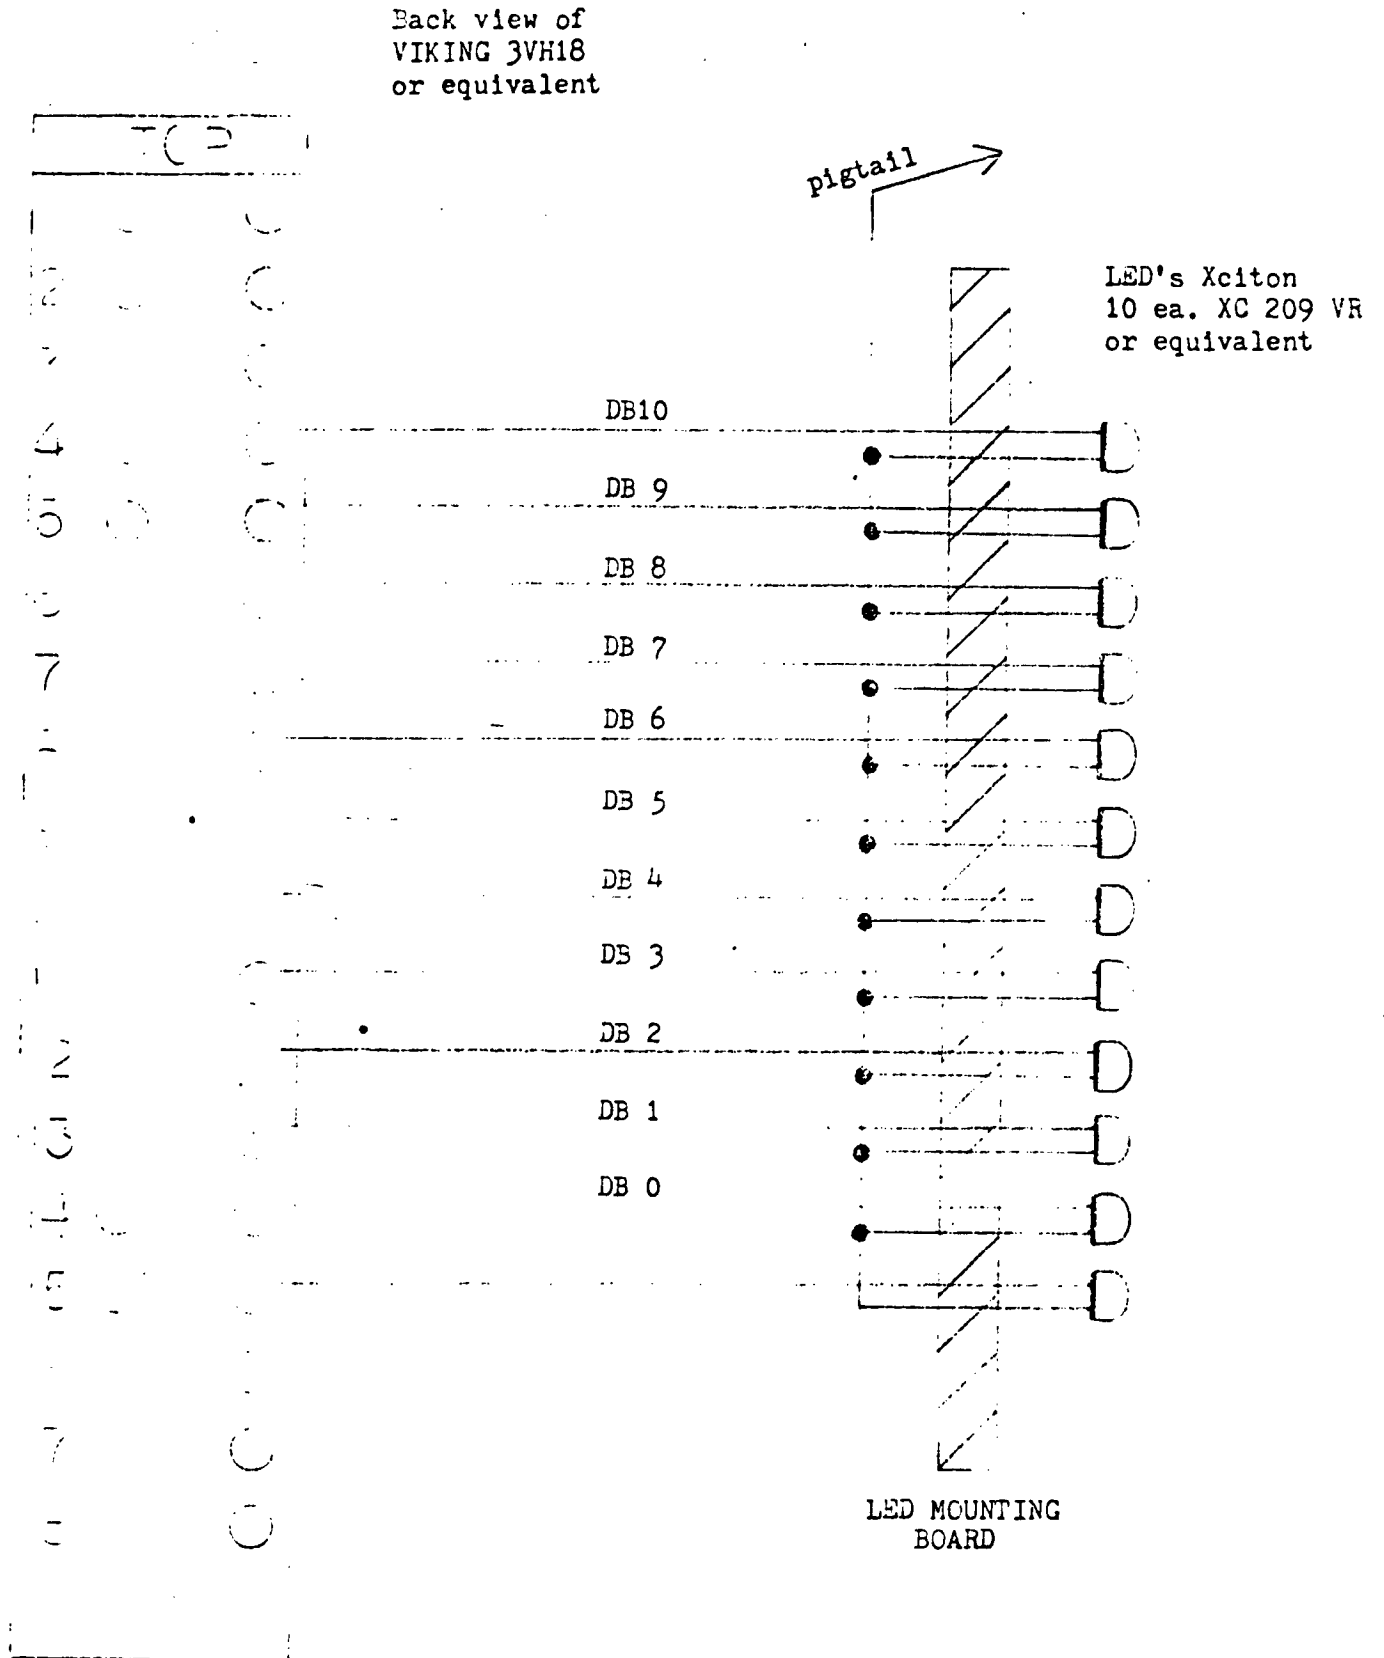

FIGURE 6.1 TRANSIENT DIGITIZER DISPLAY BOARD
- 1 - Display board (Auxillary connector) see Fig. 6.1
the display board is fabricated as shown in Figure 6.1.